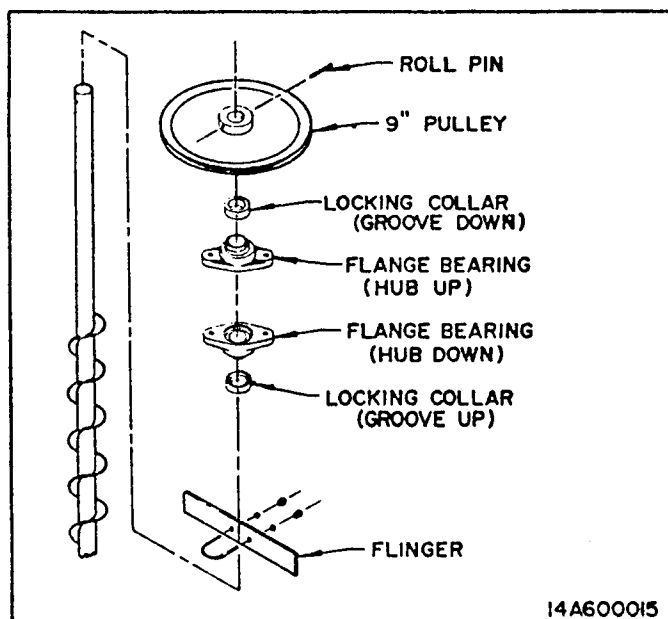

FIG. 22 - DOWN AUGER ASSEMBLY
2. Slide the following items over top of each auger shaft in order given. Fig. 22: